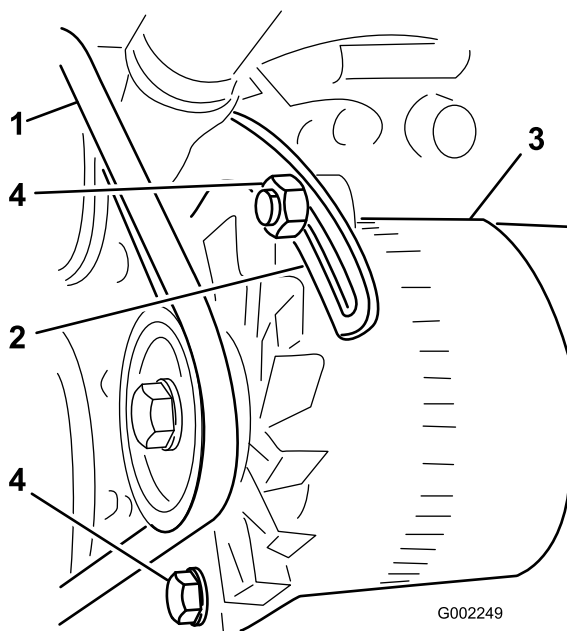

Figure 88
3. Loosen the bolts that secure the brace to the engine and the bolt that secures the alternator to the brace (Figure 88).